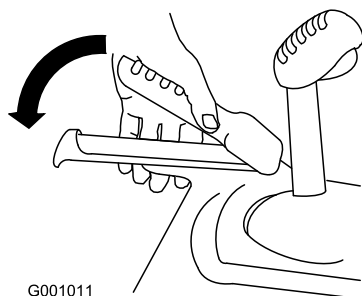

Figure 5
3. Squeeze the left (traction) lever to the handgrip (Figure 5).
6. Squeeze the left (traction) lever to the handgrip (Figure 5).